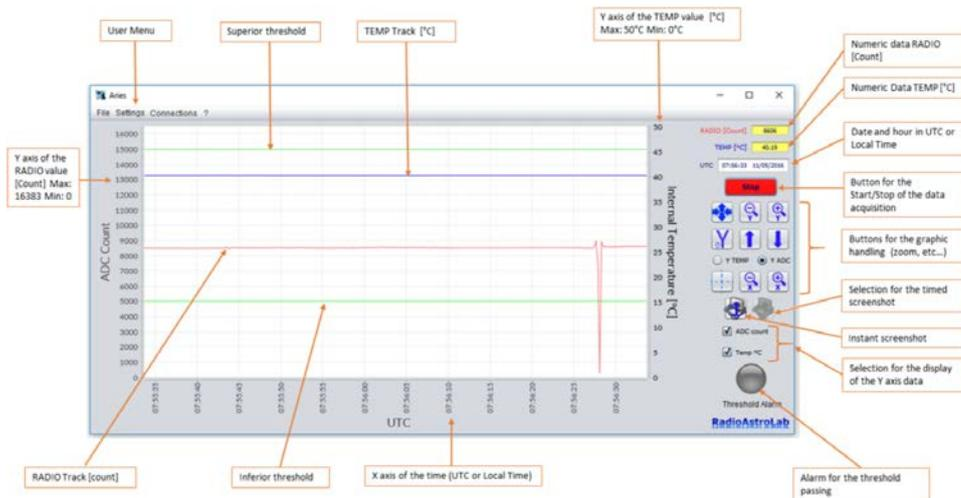

FIGURE 1.1: Main window of *Aries* software (the settings concern the receiver mod. *RAL10*).
Aries (Fig. 1.1) is an advanced and easy to use software for Personal Computer (PC), developed to handle the automatic acquisition and control of the Total-Power microwave receivers of the *RAL10* Series by *RadioAstroLab*. Conceived to optimize the "strength" and the flexibility in the serial communication typical of the *RAL10* family, the software controls the operating parameters of the specific model used (*RAL10KIT*, *RAL10AP*, *RAL10*): with the style of a graphic recorder, *Aries* displays the trend of the measurements in time and files the informations achieved through several modes and formats.